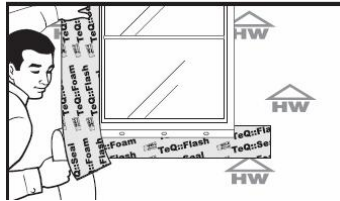

Figure 7
- 4.2.1 Install jamb flashing so that the flashing covers the nailing flange and is tight to window frame edge (Figure 7).